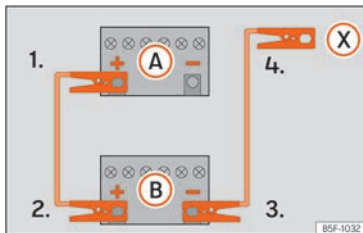

Fig. 45 Diagram of connections for vehicles without Start Stop system
2. Connect one end of the *red* jump lead to the positive (+) terminal of the vehicle with the flat battery (A) » » » Fig. 45.
3. Connect the other end of the *red* jump lead to the positive terminal (+) in the vehicle providing assistance (B).
- 4a. *In vehicles without a Start-Stop system:* connect one end of the *black* jump lead to the negative terminal (-) of the vehicle providing the current (B) » » » Fig. 45.